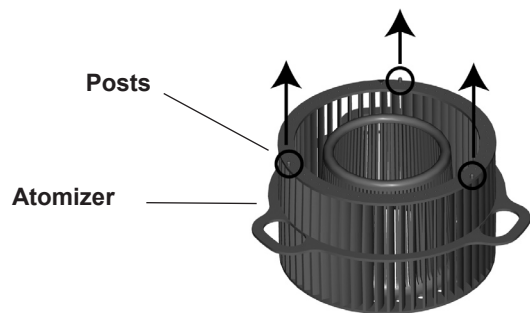

Figure 17
- Place the Atomizer in the Upper Reservoir, aligning the three oval holes in the Atomizer with the three prongs in the Upper Reservoir. The side of the Atomizer with three short posts should be facing upward. See Figure 17.